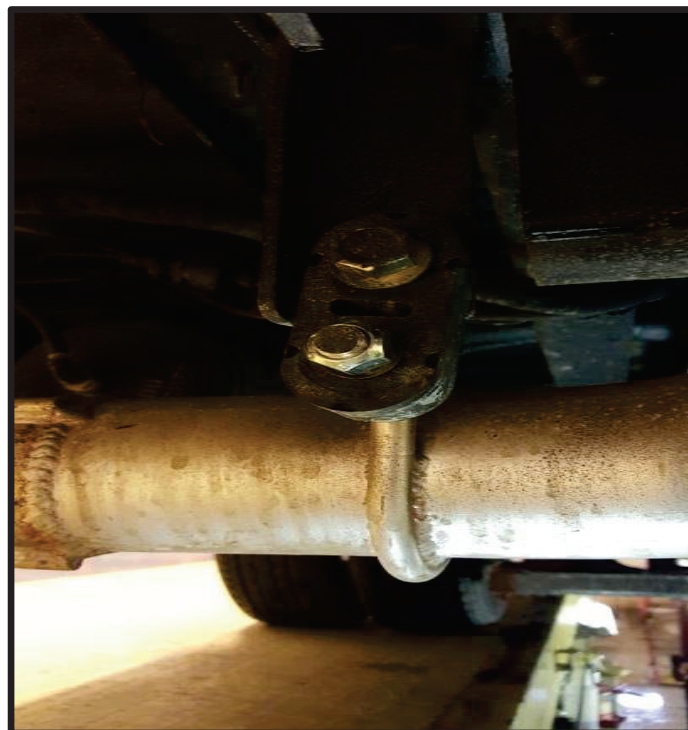

FIG. 3-2
5. Place 1/2 X 13 lock nut on end of hangers. Refer to FIG. 3-2.